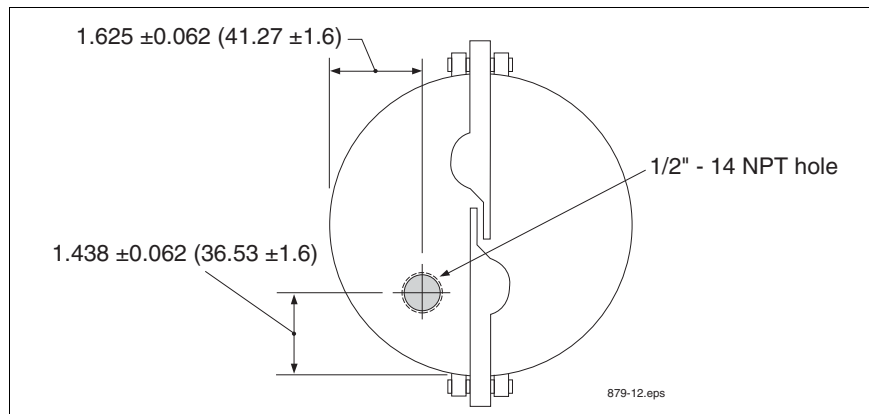

Figure 13. Modifying An Existing Metal Riser Cap
2. Drill and tap the cap for a 1/2"-14 NPT cord grip thread [Figure 13].